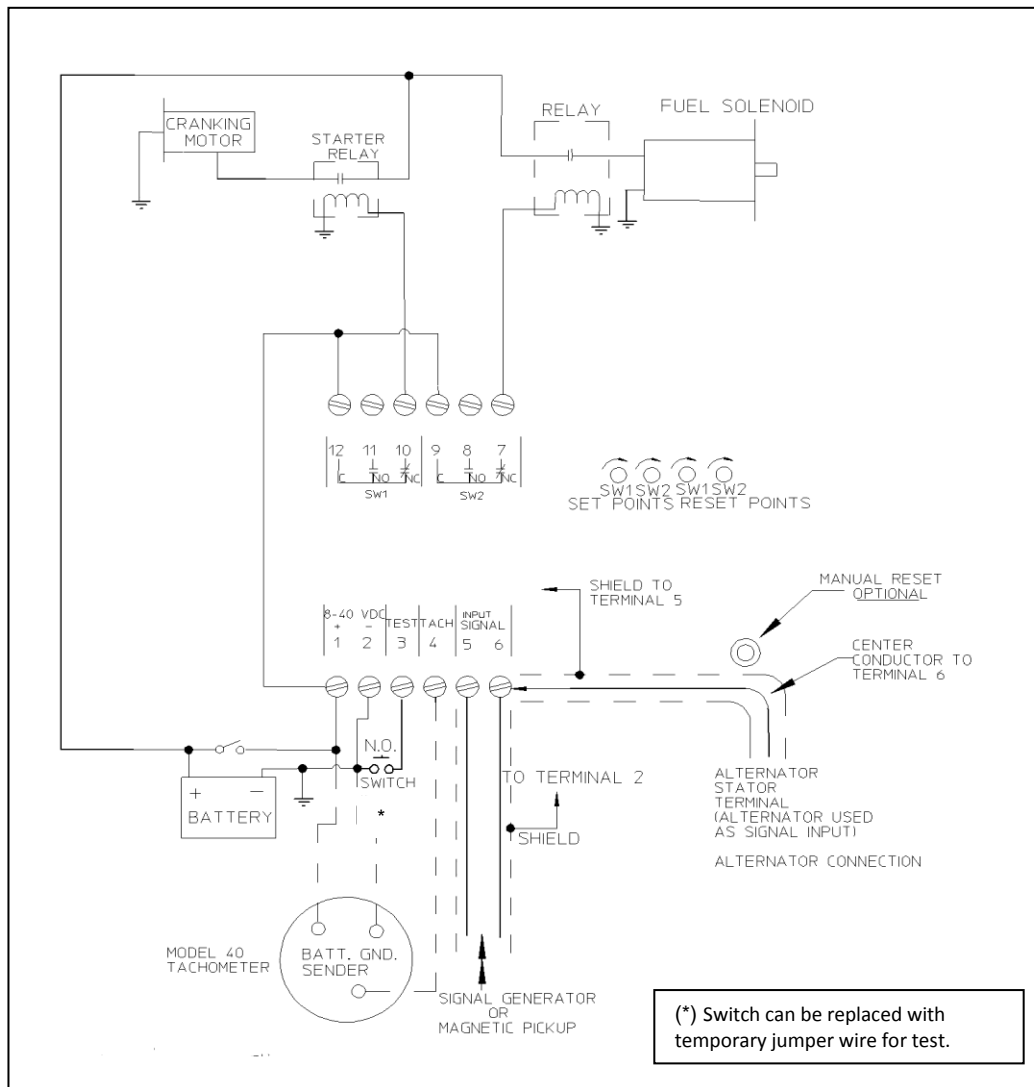

Figure 2. Connection Diagram
The switches shown on the face of the ESSE-2 and in **Figures 2** and **3** are for the NO power condition and for the condition of power applied with no signal present. With input signal (Mini-Gen, etc.) and power applied, the two switches will close at frequencies determined by the two setpoint potentiometers. When the engine reaches proper speed during cranking (starting), SW1 will close. Power will be removed from Terminal 10 and applied to Terminal 11, causing the cranking motor to be disconnected. When SW2 closes during an overspeed condition, power will be removed from Terminal 7 (fuel solenoid) and applied to Terminal 8, causing the engine not to operate. On an ESSE-2 having reverse relay logic, the switch will close when power is applied and open upon reaching the setpoint.
If load currents in excess of 10 amps are expected, interface relays should be used (Refer to **Figures 2 and 3**).
1. Connect a DC voltmeter between Terminal 2 (or negative terminal of battery) and Terminal 10 as shown in **Figures 2 or 3**.
The following check points can be used to determine if the ESSE-2 is operating properly. Refer to **Figure 2**. All AC voltage readings are in RMS.